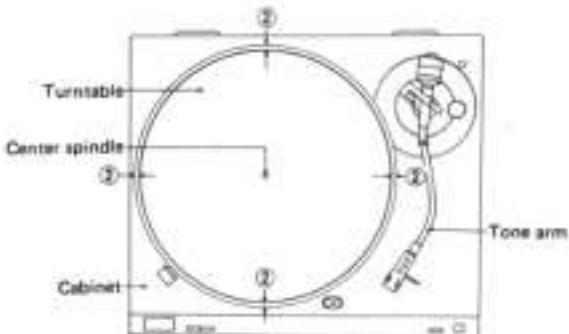

Fig. 17
2. Adjust so that the center spindle is aligned to the center of the turntable provided with equal clearances ② as in Fig. 17.
3. Completely tighten the 4 setscrews ①, taking care not to allow deflection of the center spindle.